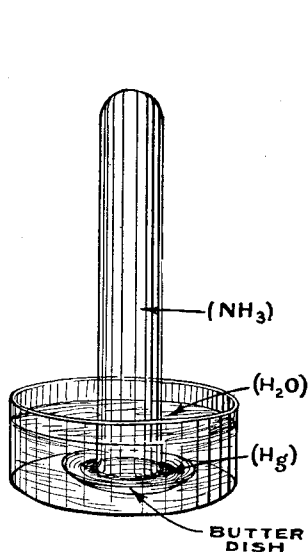
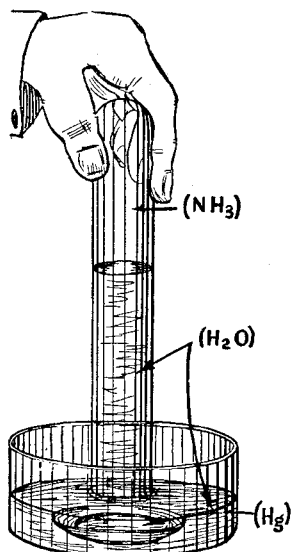

FIG. 104.—The Test Tube Sealed by Mercury.
FIG. 105.—The Test Tube Lifted from the Mercury.
**To Show How Ammonia Dissolves in Water.** Take a strong test tube and fill it with ammonia ( $NH_3$ ) gas, stand it in a small dish of mercury ( $Hg$ ) (an individual butter-dish will do) so that the gas will be sealed in the tube air-tight, as shown in Fig. 104. Now set the dish and the tube in a larger glass dish and nearly fill the latter with water ( $H_2O$ ); these preliminaries attended to, lift the test tube so that its mouth will be just above the surface of the mercury ( $Hg$ ), but not out of the water ( $H_2O$ ), and the latter will rush up into the tube and nearly fill it, as shown in Fig. 105.